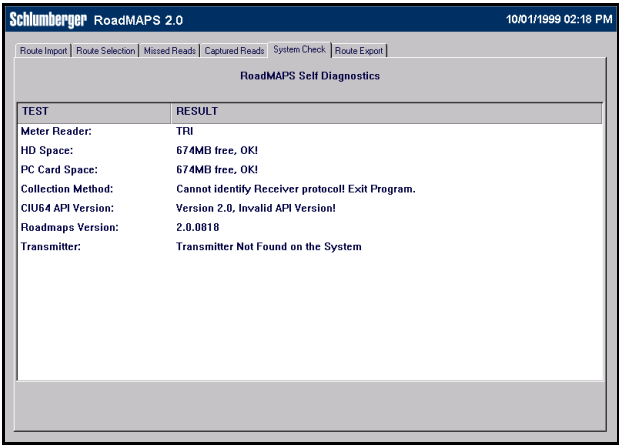

Figure B.2 System Check Screen
- 2 Press the **System Check** tab to display the System Check screen, as shown in Figure B.2.